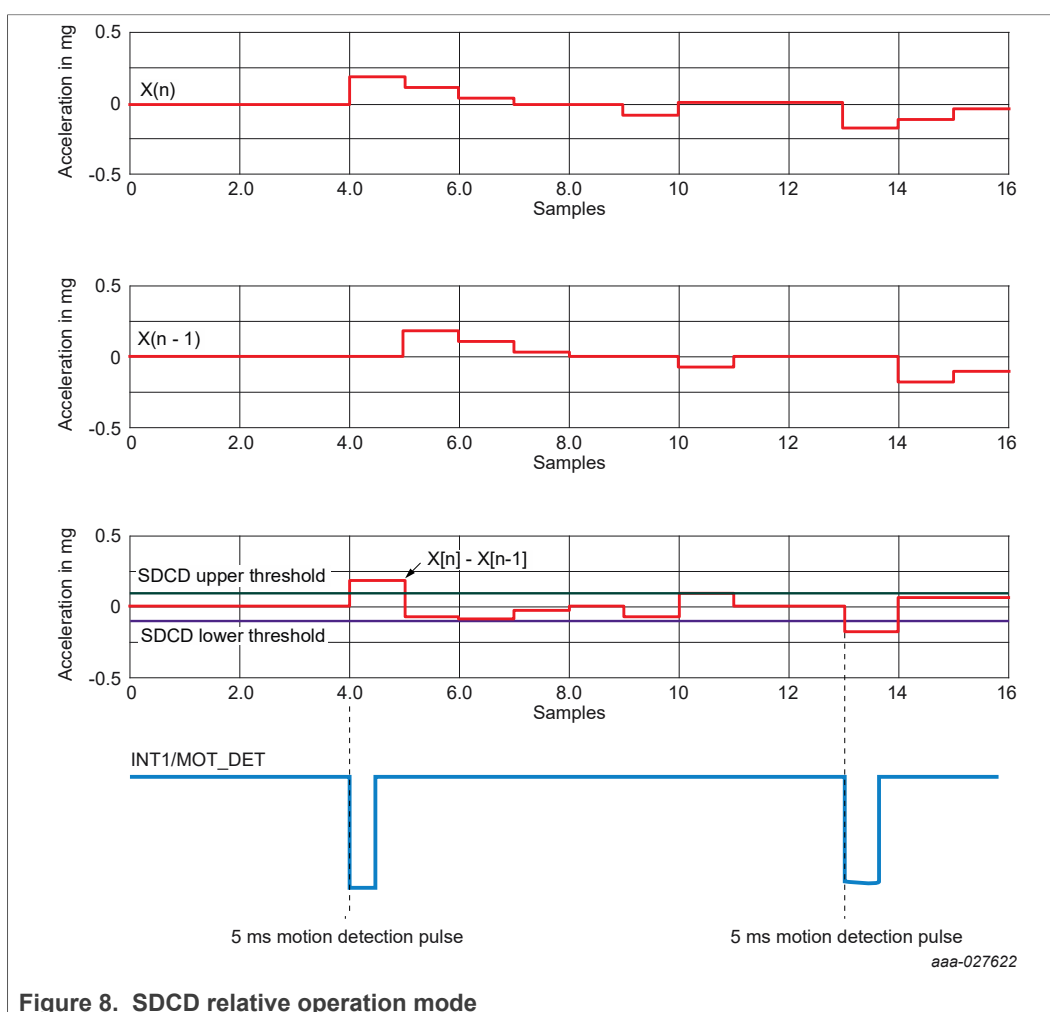

Figure 8. SDCD relative operation mode
- 0b10: The function updates the SDCD_REF_X/Y/Z values with the current decimated and trimmed X/Y/Z acceleration input data after the function evaluation. This allows for acceleration slope detection with Data(n) to Data(n-1) to be used as the input to the window comparator. Figure 8 shows the SDCD block usage in relative mode.